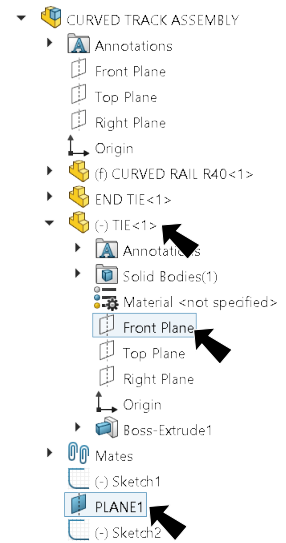

Fig. 22
Step 4. Expand the flyout Feature Manager design tree, expand **Tie** and click **Front Plane**  and click **Plane1** , **Fig. 22**.